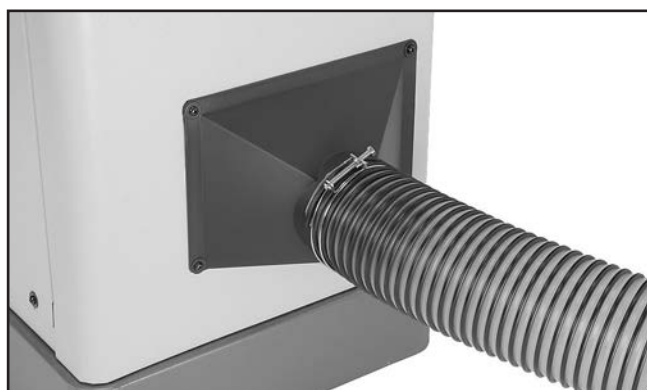

Figure 17. Dust hose attached to dust port.
1. Install the dust port as shown in **Figure 17**, using the four M5-.8 x 16 Phillips head screws and flat washers.
2. Fit the 4" dust hose over the dust port, as shown in **Figure 17**, and secure in place with a hose clamp.